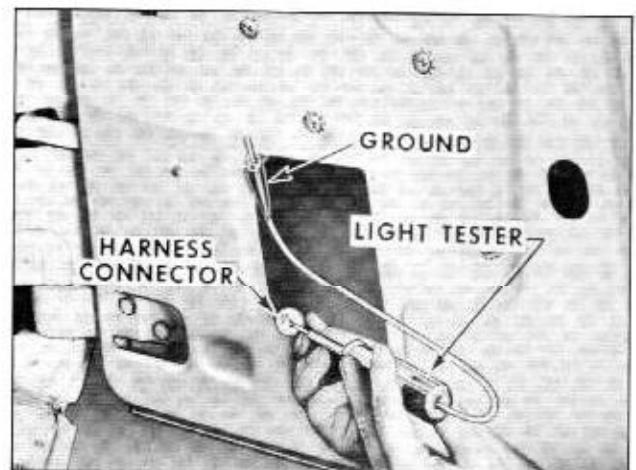

Fig. 17-168 Checking Wiring Between Switch and Door Window Motor
- With light tester check for current at terminal being checked. If tester does not light, there is an open or short circuit in the harness between the control switch and motor connector. (Fig. 17-168)